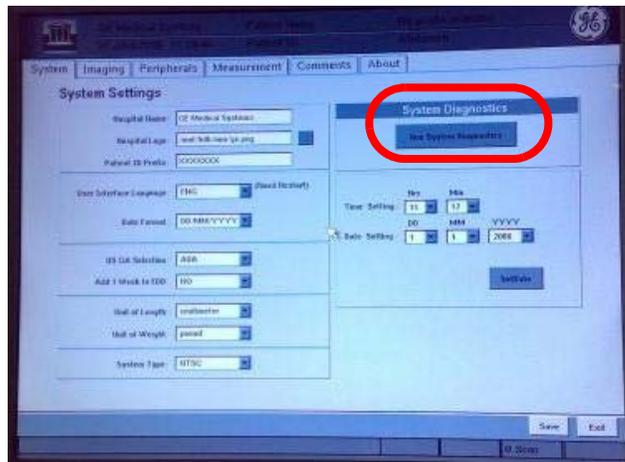

Figure 7-7 System Settings
- 2.) **Keyboard Test:** From the service diagnostics main screen click on Keyboard Test (Refer Figure 7-6) and the screen (Refer Figure 7-7) will appear.